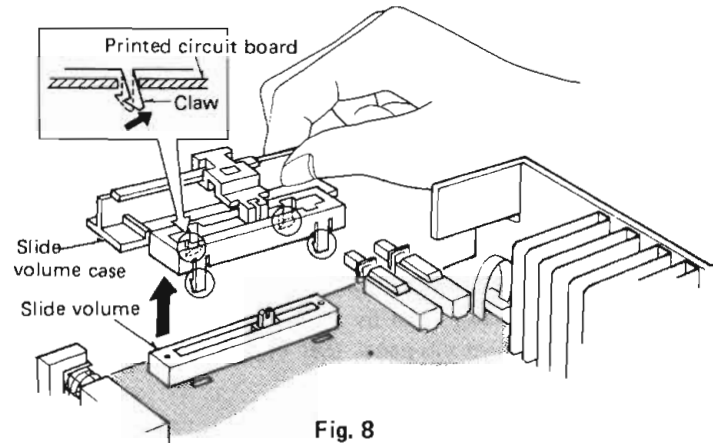

Fig. 8
7. The claws projected (at 4 portions) from the slide volume printed circuit board are engaged with the slide volume. Disengage the claws from by screw driver or the like to remove the slide volume case. (Fig. 8)